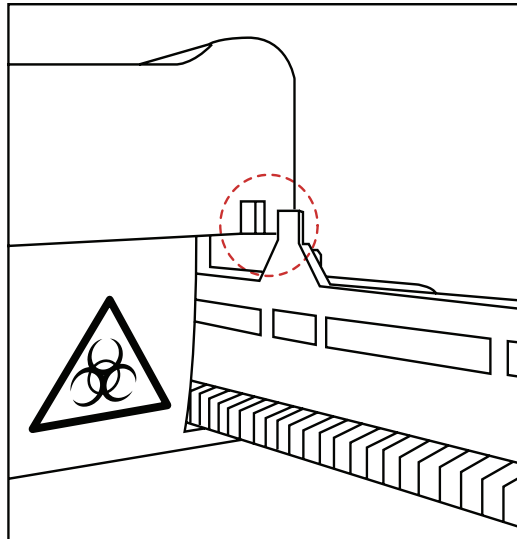

Fig. 26A
- Insert the Carriage into the analyzer, inserting the tab into the notch in the white case (Fig. 26A). A notch in the blue case should fit into the bottom of the carriage (Fig. 26B).